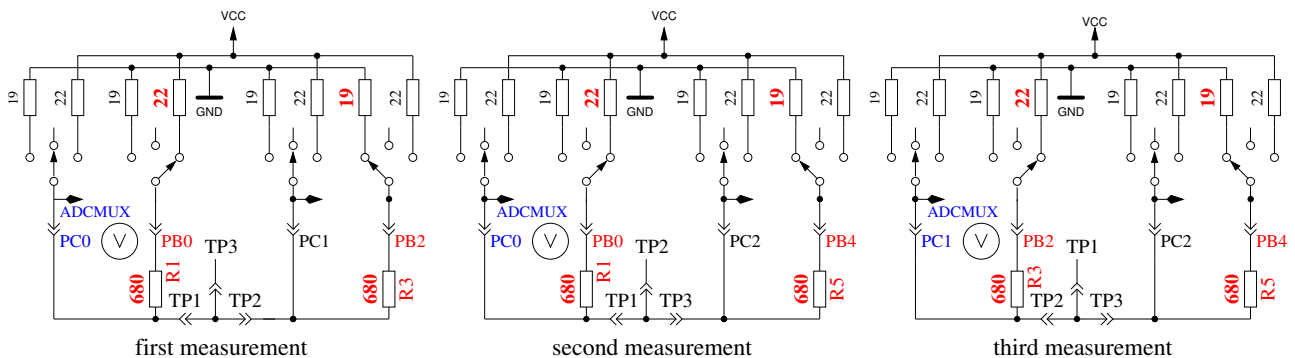

Figure 5.44: Comparison of 680Ω resistors
- Comparing of the 680Ω resistors.** In row 1 the cryptic text “+RL- 12 13 23” is shown. Meaning of this is as follows: The RL is the short form of Resistor Low meaning the 680Ω resistors. The 12 stand for: resistor at pin 1 is connected to VCC (+) and resistor at pin 2 is connected to GND (-). The result of this measurement is displayed in row 2 at the first place as difference to the theoretical value. In row 1 follows now a “13” which means, that the first connection of measurement 1 is still connected with 680Ω to VCC but that the resistor of pin 3 is connected to GND. The result is displayed in the middle place of row 2 as difference to the theoretical value. The last measurement of this test “23.” means that now the resistor at pin 2 is connected to VCC (+) and the resistor of pin 3 is connected to GND. The result of measurement is displayed at the last place of LCR row 2 as difference to the theoretical value. Please remember, that the resolution of the ADC is about 4.88mV! The measurement situation is also shown in figure 5.44. The theoretical value with respect to the internal resistance of the pins should be: